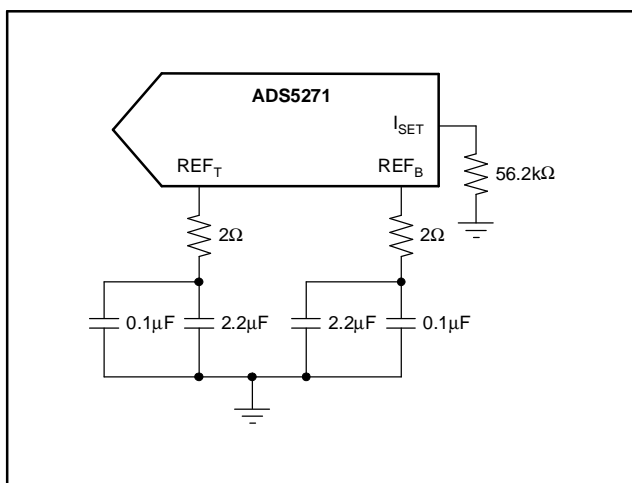

Figure 17. Internal Reference Mode
When using the internal reference mode, a 2 Ω resistor should be added between the reference pins (REF_T and REF_B) and the decoupling capacitor, as shown in Figure 17. If the device is used in the external reference mode, this 2 Ω resistor is not required.
- Added Figure 17. 18